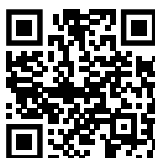

Fig. 122
► Open Liebherr SmartMonitoring Dashboard. (see Fig. 122)